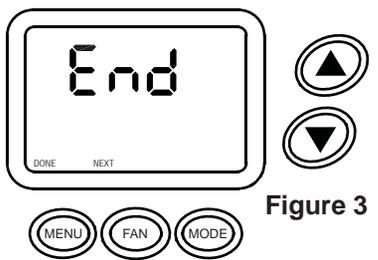

Figure 3
- 12. **END** will appear on the display when programming is completed (Figure 3).